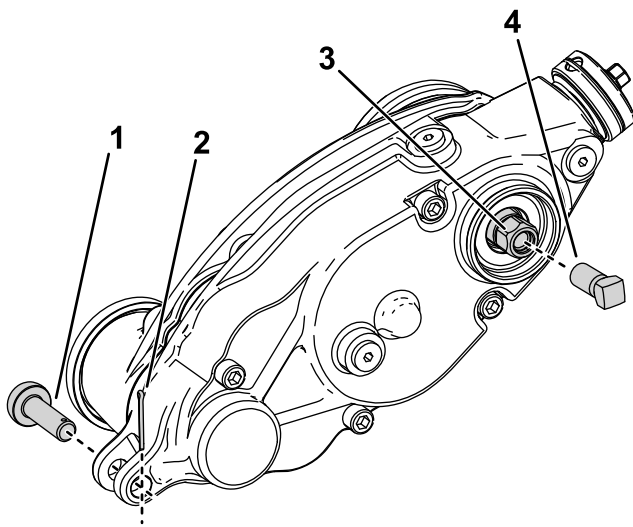

Figure 27
3. Remove the adjuster pin and cotter pin connecting the groomer drive box to the adjuster arms (Figure 27).
5. Install the reinforcement screw (Part No. 1-803022—sold separately) to the internal threads of the groomer drive hex head and torque to 13.5 N·m (120 in-lbs) as shown in Figure 27.
6. Remove the groomer drive box from the cutting reel by turning the groomer drive hex-head (Figure 27).